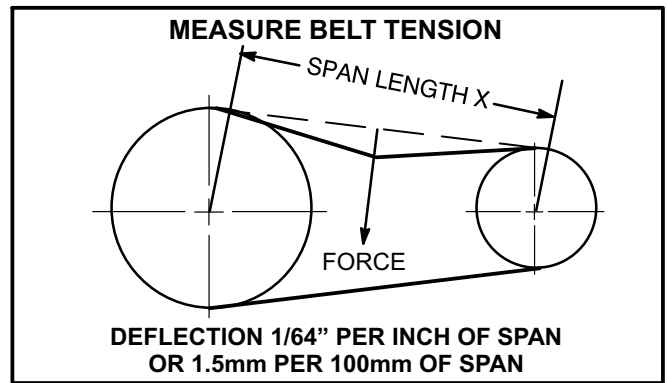

FIGURE 15
- 1- Measure span length X. See figure 15.
- 2- Apply perpendicular force to center of span (X) with enough pressure to deflect belt $1/64$ " for every inch of span length or 1.5mm per 100mm of span length.